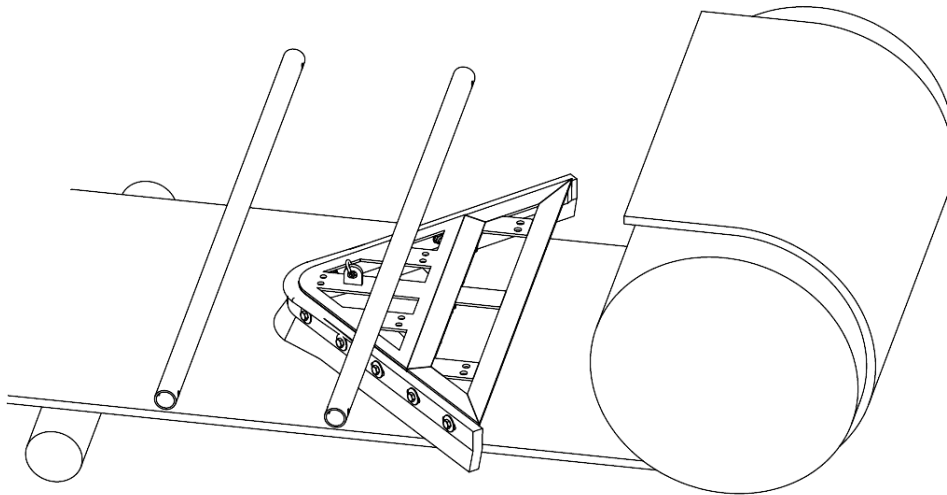

Figure 4
2. Sit the main frame on the belt, ensuring it is central on the conveyor as shown in Figure 4. Note that the belt may be tracked off the conveyor centreline.